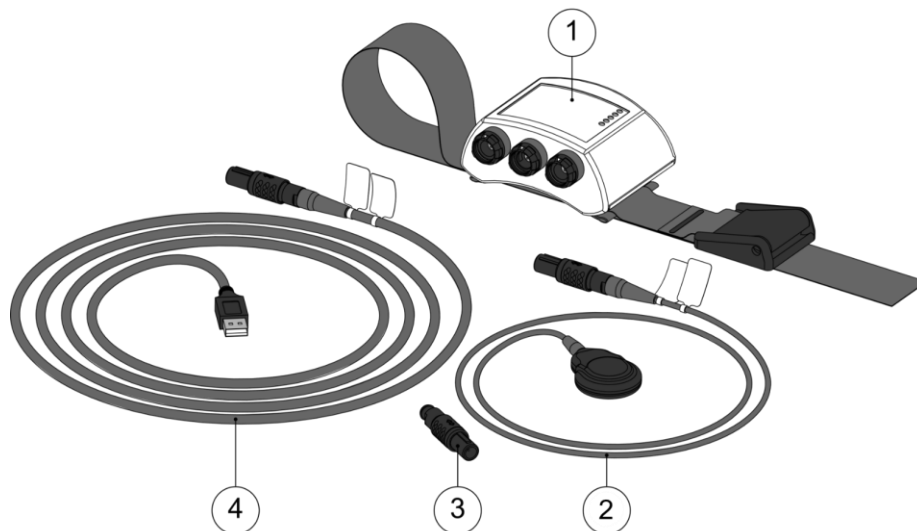

Figure 3: External Unit
The External Unit (Figure 3) consists of the Communication Unit (1) which is connected to the Personal Computer with a USB cable (4). The Headpiece (2) is connected to the Communication Unit and powers wirelessly the Implantable Unit. The Connector for Trigger Input (3) can also be connected to the Communication Unit.
The USB Cable (see Figure 3, no. 4) connects the Communication Unit to the Personal Computer.
The System is shipped with a connector that mates with the trigger input of the Communication Unit (see Figure 3, no.3). The user of the system can customize its own trigger cable using this connector.